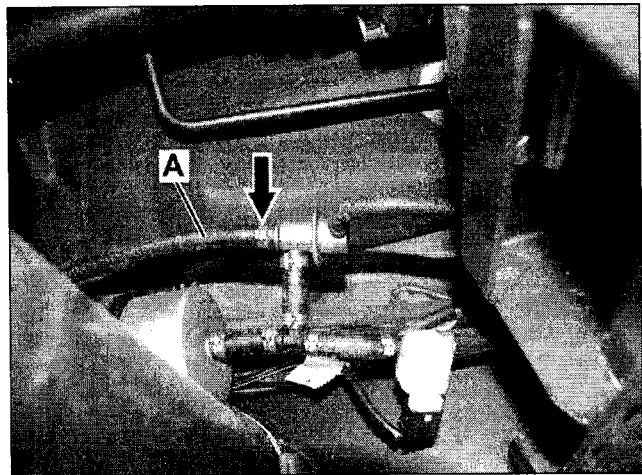

Figure 4
5. Disconnect fuel return hose (A, Figure 4) from pressure regulator:
- Place drain pan below fuel hose (A) to capture any fuel that may drain from fuel system.
- Remove and discard clamp (arrow) then disconnect fuel return hose (A) from pressure regulator.